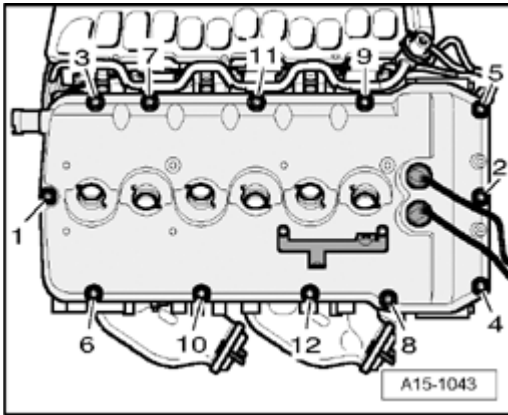

Fig. 208: Cylinder Head Cover Bolts Tightening Sequence
- Observe sequence for tightening --> **Fig. 208.**